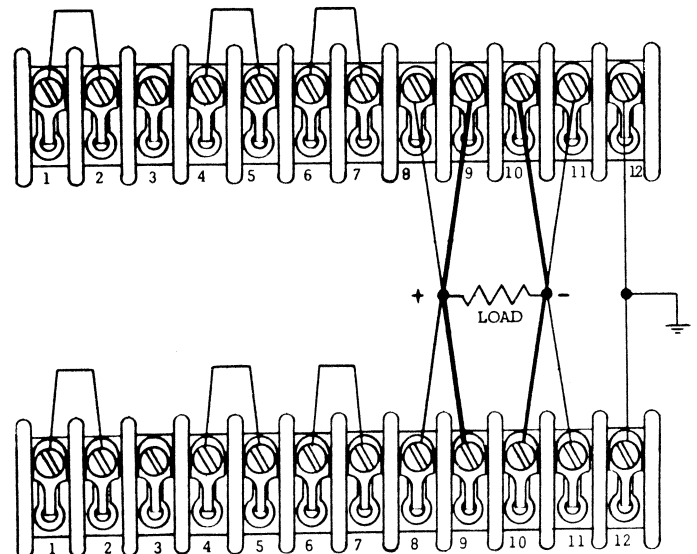

Figure 3-6. Direct Parallel Hookup (with Remote Sensing)
c. Set unit circuit breakers to OFF, and run load leads from units to load. Observe polarity (see Figure 3-6).
d. If remote sensing is to be used, connect sensing leads from units to load. See Fig. 3-6. Observe polarity. Use twisted wire or shielded cable for leads.